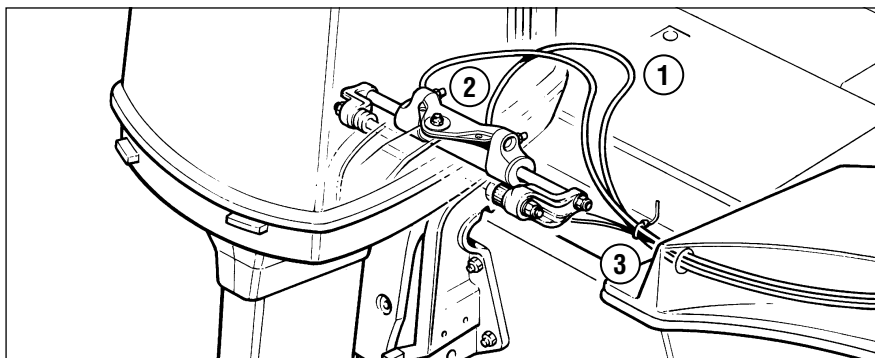

Figure 3.
- See figure 3 on the next page to locate your plumbing diagram.